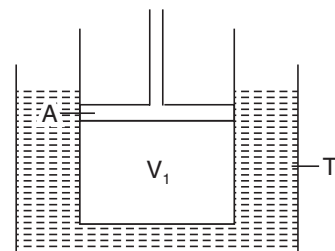

Fig. 4.3
**Work done in a reversible isothermal expansion:** Suppose  $n$  moles of a gas is enclosed in a cylinder by a frictionless piston (Fig. 4.3).
In the case of a reversible expansion of an ideal gas in a container as in Fig. 4.3, the container is fitted with a frictionless movable piston at constant pressure  $P$ . The volume of the gas changes from  $V_1$  to  $V_2$ . Since the process is reversible, the pressure on the gas is approximately equal to the external pressure  $P$ .